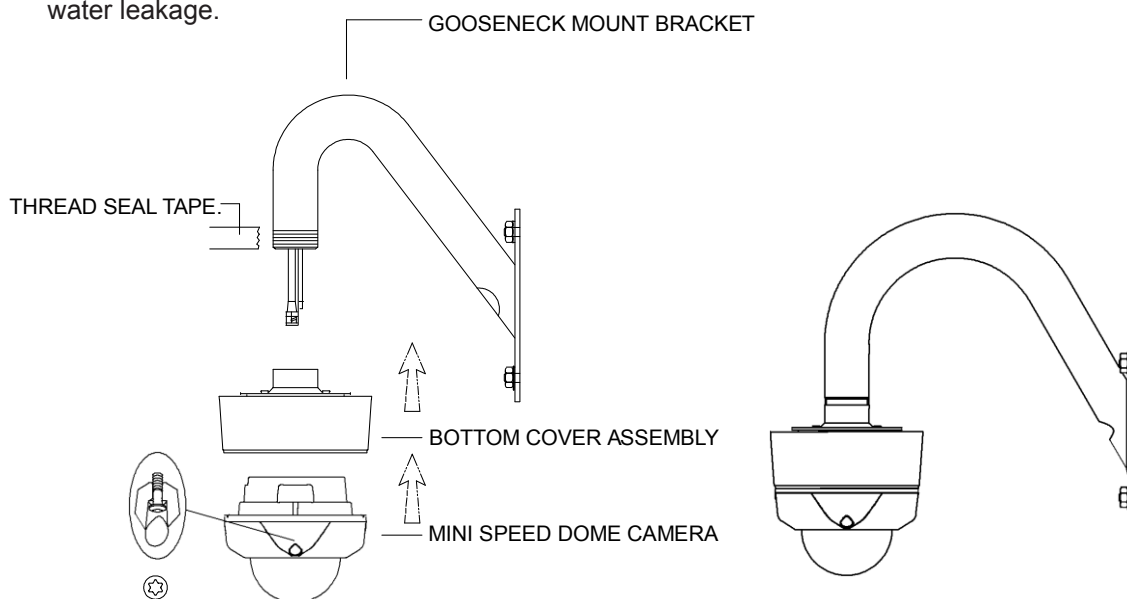

FIG. 17
3. As shown on FIG.17, after assembling mini PTZ and bottom cover assembly, drive the gooseneck mount bracket and fix. (FIG.17) **Caution**) Be sure to use seal tape for pipe screw to prevent a water leakage.